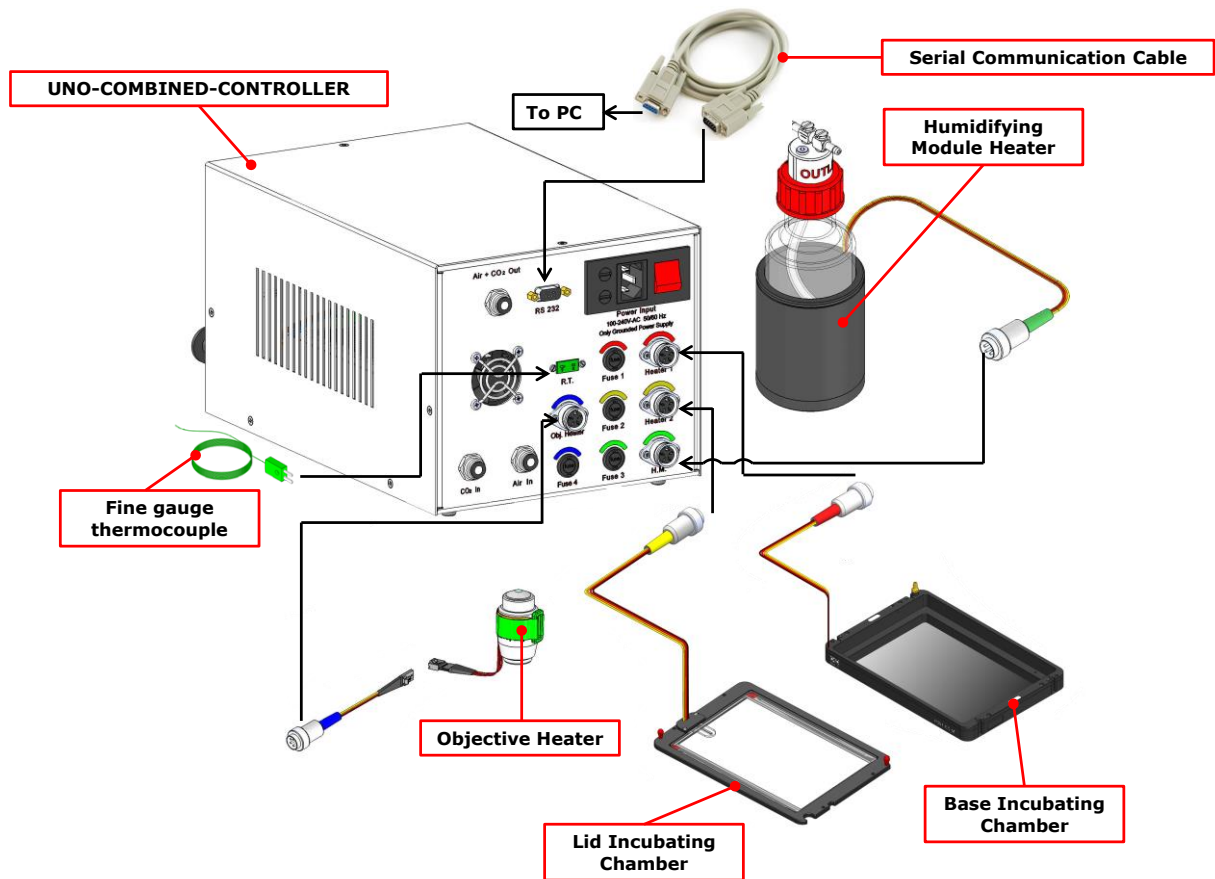

Figure 11. Cables connection. Standard configuration.
Refer to Figure 11 in order to connect the cables to Control Unit.
1. Connect the base of the incubation chamber, red labeled, to the port labeled 'Heater 1' on the rear panel of the Control Unit (see Figure 11)
2. Connect the lid of the incubation chamber, yellow labeled, to the port labeled 'Heater 2' on the rear panel of the Control Unit (see Figure 11).
3. Connect the humidifying module heater, green labeled, to the port labeled 'H.M.' on the rear of the Control Unit (see Figure 11).
4. Connect the Objective Heating Collar, blue labeled, to the port labeled "Obj. Heater" on the rear of the Control Unit (see Figure 11).
the Control Unit (see Figure 11). Place this thermocouple in a Reference Well filled with water. Make sure that the end of the Fine Gauge Thermocouple is fully immersed in liquid.